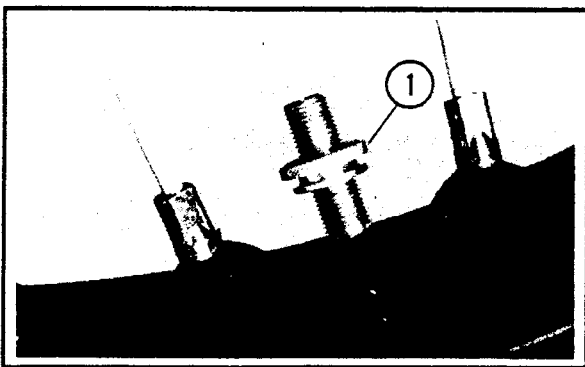

Figure 5-65. Valve Stem Nut
4. See Figure 5-65. Remove valve stem nut (1) from valve stem.
4. See Figure 5-65. Install valve stem nut (3) to engage a few threads and prevent valve stem from being drawn into tire.
11. See Figure 5-65 Tighten valve stem nut (1).